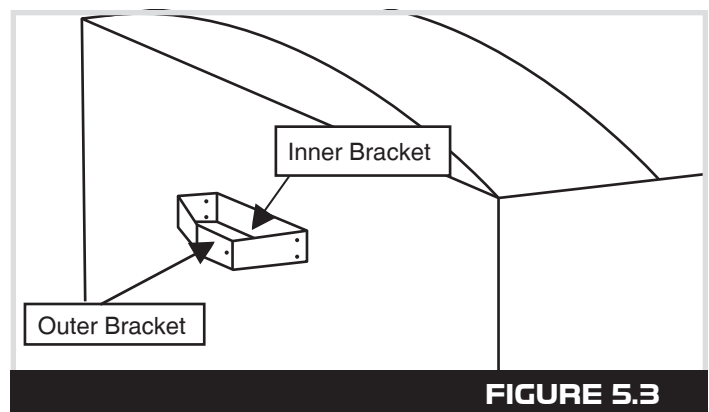

FIGURE 5.3
5. If you have a square-nosed trailer, bolt the outer brackets to the inner bracket using the four (1/2" hex head bolts, nylock nuts, washers) provided. It will appear as shown in the **Figure 5.3.**